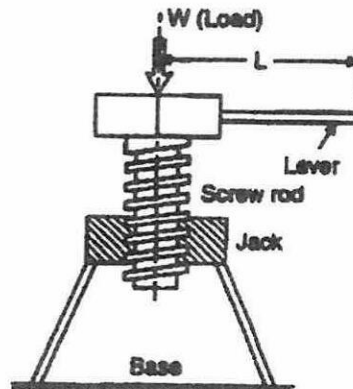

Figure Q4.2
- (b) The mean diameter of a Vee' threaded screw jack as shown in **Figure Q4.2** is 60 mm. The pitch of the thread is 15 mm and the angle of thread β is 20° . The coefficient of friction is 0.2. Calculate the efficiency and force that must be applied at the end of a 0.5 m long lever, which is perpendicular to the longitudinal axis of screw to raise a load of 30 kN.